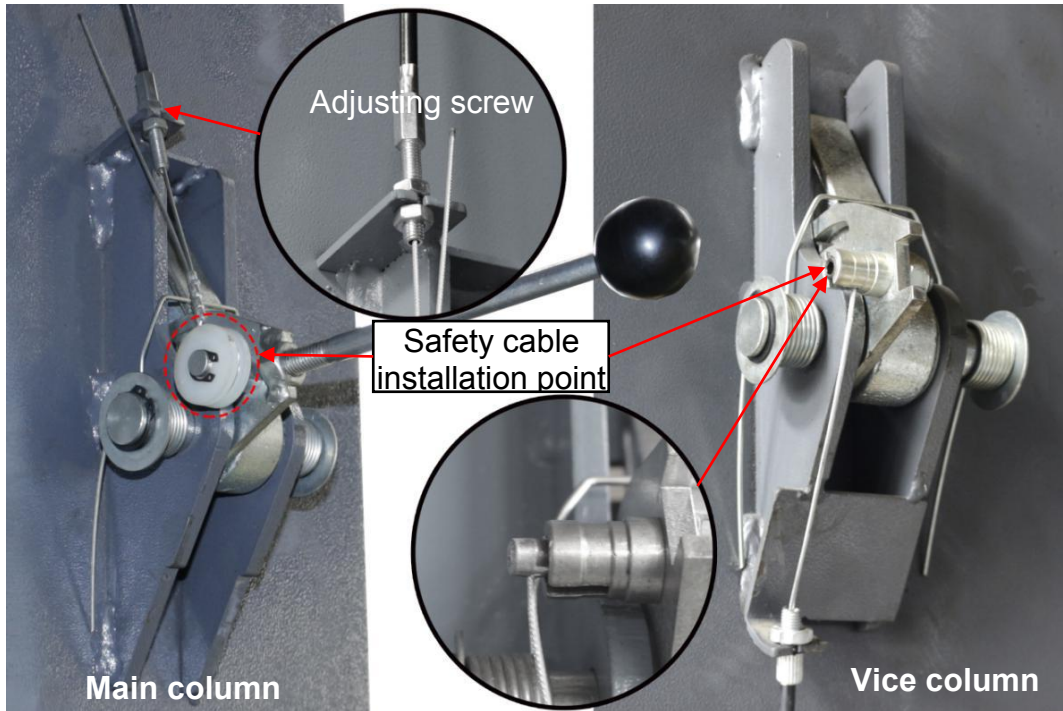

Fig 10 Safety lock release cable installation diagram
2. Install safety lock release cable to connect the safety lock on the main column and vice column. (Fig 10)